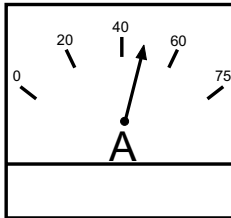

Figure 61. Ammeter (Load)
- Look at the generator's ammeter (Figure 61) and verify that it reads the anticipated amount of current with respect to the load. Remember the ammeter will only display a current reading if the load is in use.